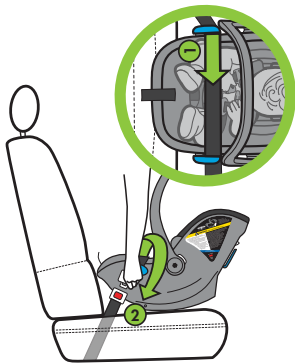

Figure 76b
- Route the lap belt through both blue Vehicle Lap Belt Guides and buckle vehicle belt as shown in **Figure 76b**.